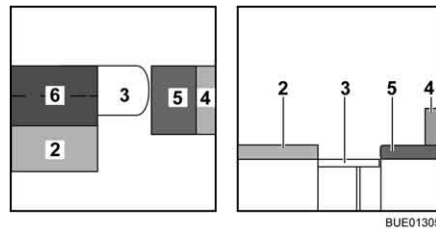

Fig. 128 During conversion
- Unfold the additional cushion (Fig. 128,6) and lay it on the table.